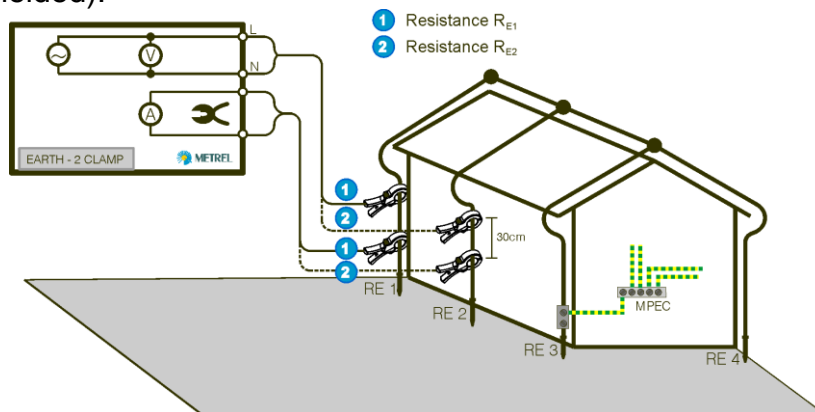

Figure 2-57: Test system (individual earthing rods) with two current clamps
- Applicable for measuring lightning systems (Figure 2-57).